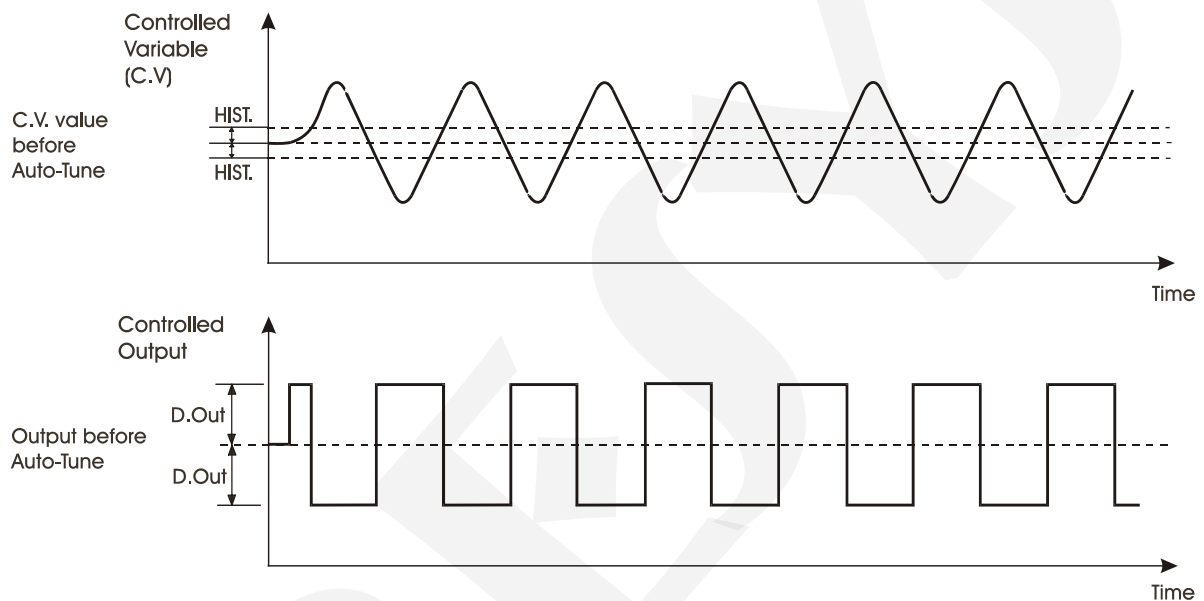

Fig. 28 - Process variable and control output for on demand auto-tune
Whenever the auto-tune on demand is running, the controller generates a square wave in the control output with amplitude selected by the user (D.Out), centered on the output value, in order to cause oscillations on the controlled process, as illustrated on figure 28. Based on such oscillations, the auto-tune algorithm computes the PID parameters and the plant is controlled by those new parameter values.
- ii) Select the amplitude of the square wave (D.Out) and the hysteresis (Hyst). See figure 28.